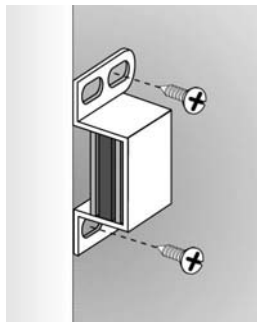

Figure 7
- E. Now, use your pencil to mark the position of only two of the screw holes, one top and one bottom, in the Magnetic Catch (#4) brackets (See Figure 7).